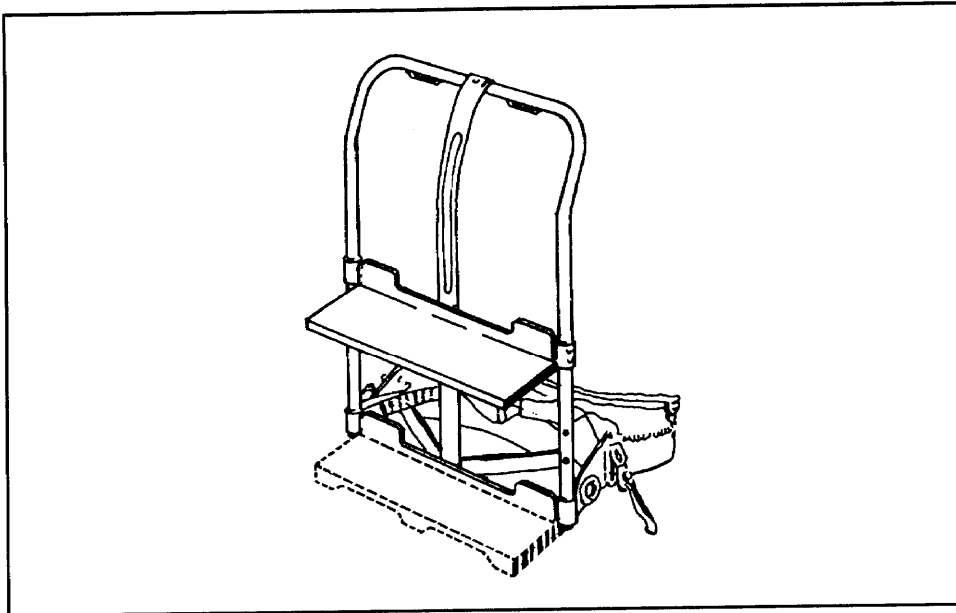
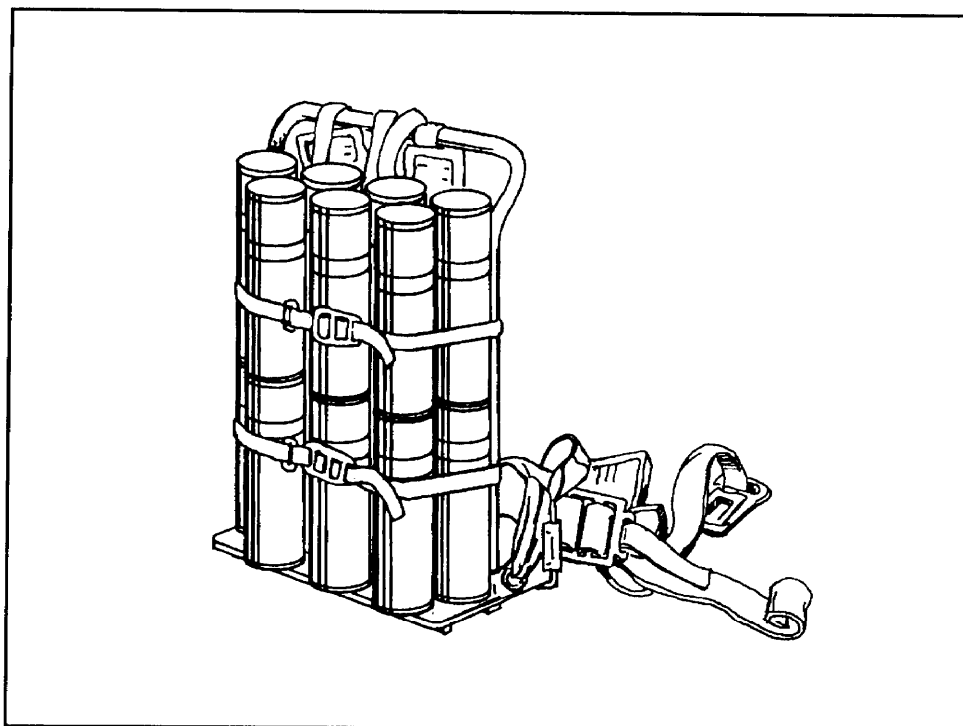

Figure 8-2. Attachment of the cargo shelf.
Figure 8-4. Cargo tie-down straps.
(1) The combat field pack, either the large or medium size, can be used with or without the metal pack frame. Either pack allows the soldier to carry his combat load and more ammunition. The 60-mm mortar rounds can be carried inside the pack or in the outside pockets. Individual rounds should be kept in their cylindrical packing container to protect both fuze and propellant charges from exposure and possible damage. Use of the pack frame with the field pack allows the greatest flexibility in load carrying. Some sections are equipped with newer packs that do not have an external metal frame. Mortar ammunition carried in these packs should be packed on top of all other items in the top portion of the pack.
(2) The pack frame can be used to carry heavy or bulky loads without the field pack by attaching the cargo shelf to the pack frame either at the middle or the bottom brace of the frame (Figures 8-2 and 8-3). Cargo tie-down straps are used to secure the load to the pack frame (Figure 8-4, see page 8-20). The mortar, biped, baseplates, and sightunits can also be secured to the frame by tie-down straps.